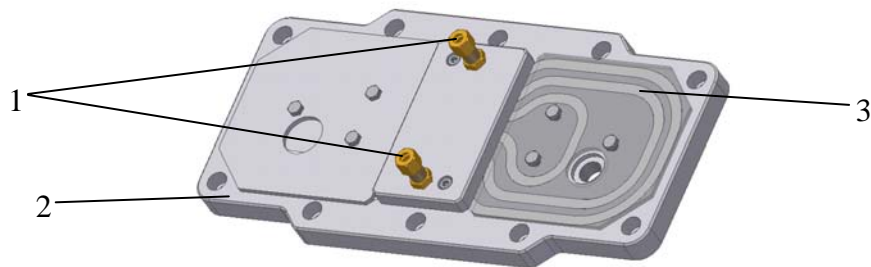

Figure 33. Cooling Cover
Cutting ring screw threads (see Item 1, Figure 33) are located at the casing cover for the connection of a pipe with an external diameter of 10 mm according to DIN 2353.
2. **Make sure not to twist the screw necks during or after assembly** as the cooling coil may be damaged (see Item 3, Figure 33). You must ensure that no external forces act on the cooling coil.